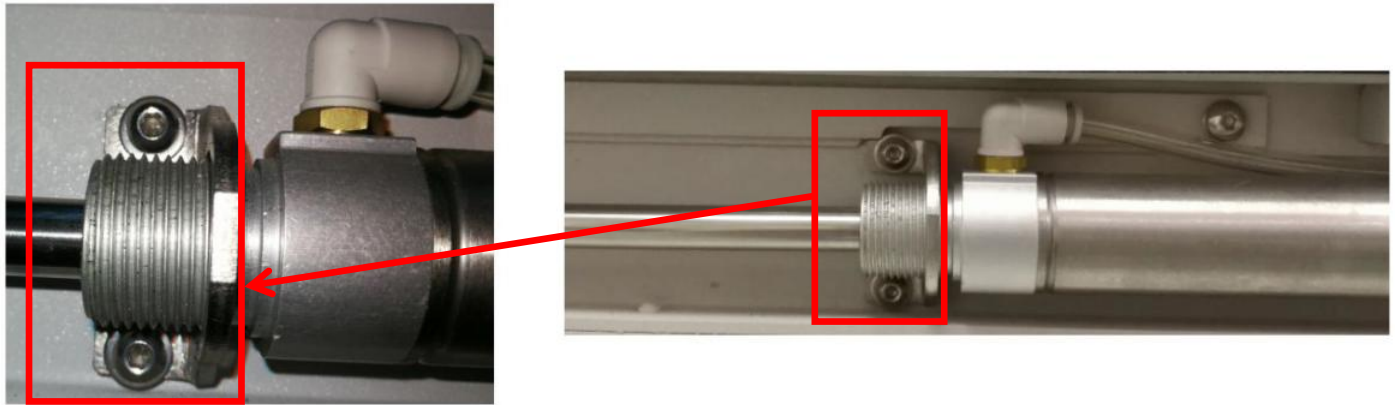

Figure 21
24. Assemble Front Cylinder Holder at outer barrier cylinder & tighten 2 x screws as Figure 21